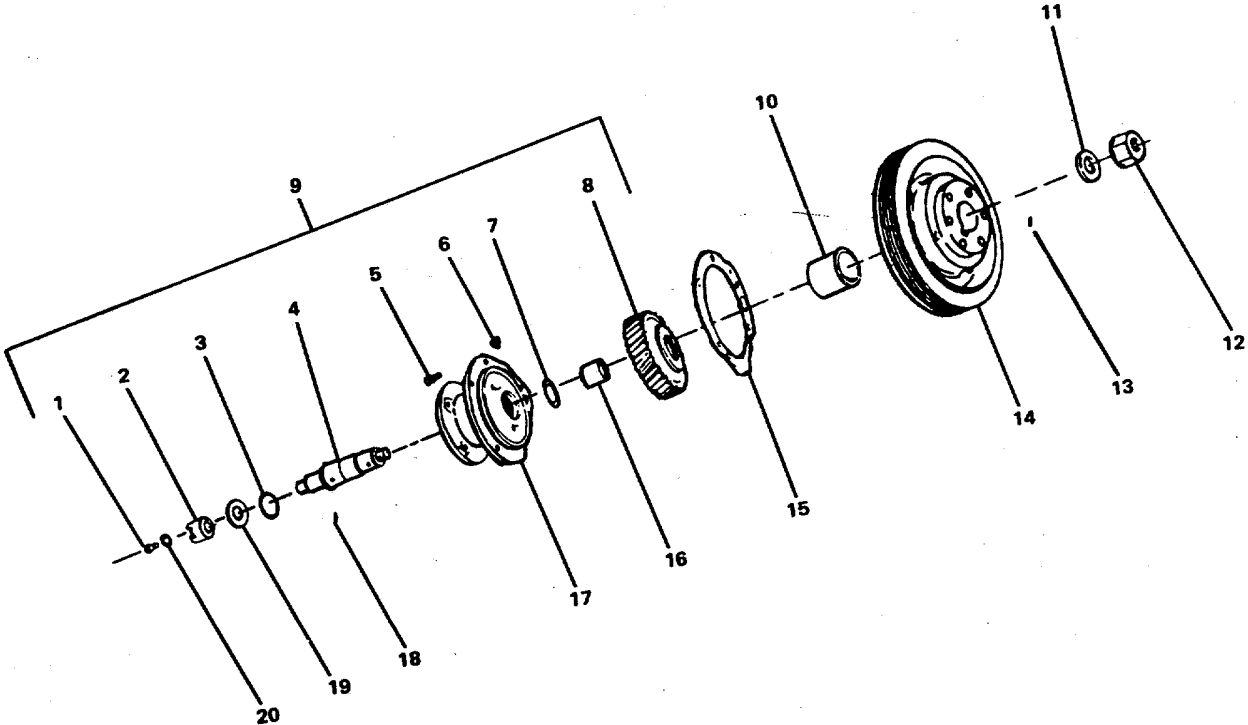

FIGURE 3-40. Power Take Off, Accessory Drive and Pulley Group.
- a. Remove the pulley retainer nut (12, FIGURE 3-40) and washer (11).
- h. Remove self locking capscrew (1, FIGURE 3-40) from shaft (4) and washer (20).
- i. Remove gear (8), bushing (16) and thrust bearing (7) from shaft (4).
- j. Remove coupling (2), washer (19) and thrust bearing (3) from shaft (4).
- k. Pull shaft (4) with groove pin (18) from pulley end of accessory drive housing (17).
- l. Remove groove pin (18) from shaft (4).
Repair by replacing the gasket (15, FIGURE 3-40), and accessory drive assembly components, which include coupling (2), thrust bearing (3), headless straight pin (18), accessory drive shaft (4), thrust bearing (7), helical gear (8), accessory drive housing (17), sleeve bearing (16), and pulley wear sleeve (10).
- c. Install a gasket (15, FIGURE 3-40) on the accessory drive housing (17).
- d. Put the accessory drive shaft dowel pin (13, FIGURE 3-40) at approximately the 11:30 o'clock position when facing the shaft from the pulley end.
- g. Install and tighten the five accessory drive mounting capscrews (5, FIGURE 3-40) to 45 ft-lb torque.
- (1) Apply a film of Lubriplate 105 or equivalent to the accessory drive shaft.
- (2) Align the keyway in the pulley (14, FIGURE 3-40) with the dowel pin (13) in the shaft (4). Use your hand to push the pulley (14) part way on the shaft (4).
- (3) Install the washer (11) and the retaining nut (12) on the accessory drive shaft (4). Tighten the nut to 310 ft-lb torque.